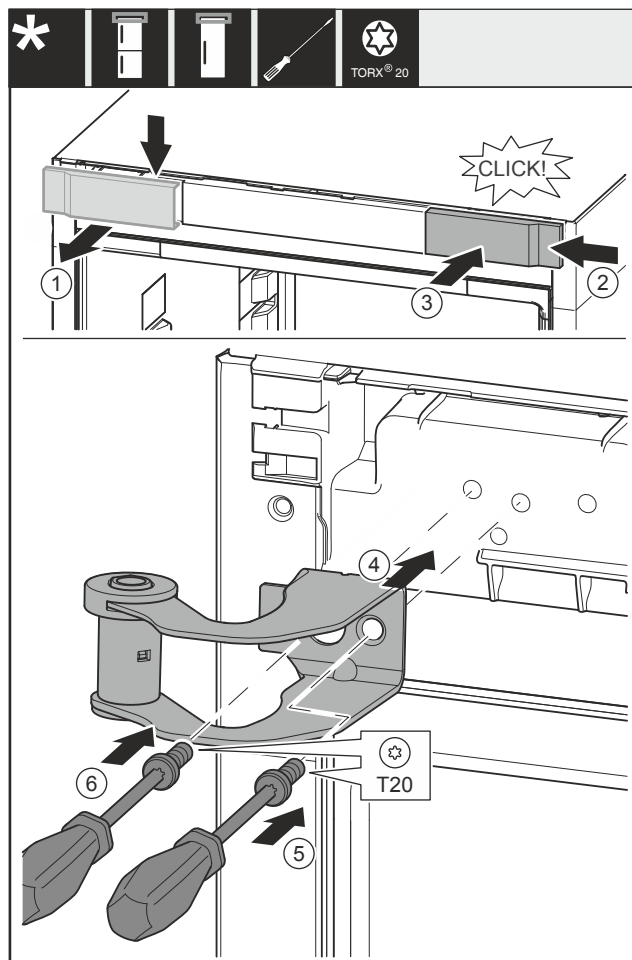

Fig. 18
- ▶ Remove the cover Fig. 18 (1) from above towards the front.
- ▶ Turn the cover Fig. 18 (2) by 180° and attach to the other side from the right.
- ▶ Engage the cover Fig. 18 (3).
- ▶ Place the top swap bearing block Fig. 18 (4).
- ▶ Screw the screw Fig. 18 (5) tight.
- ▶ Screw the screw Fig. 18 (6) tight.